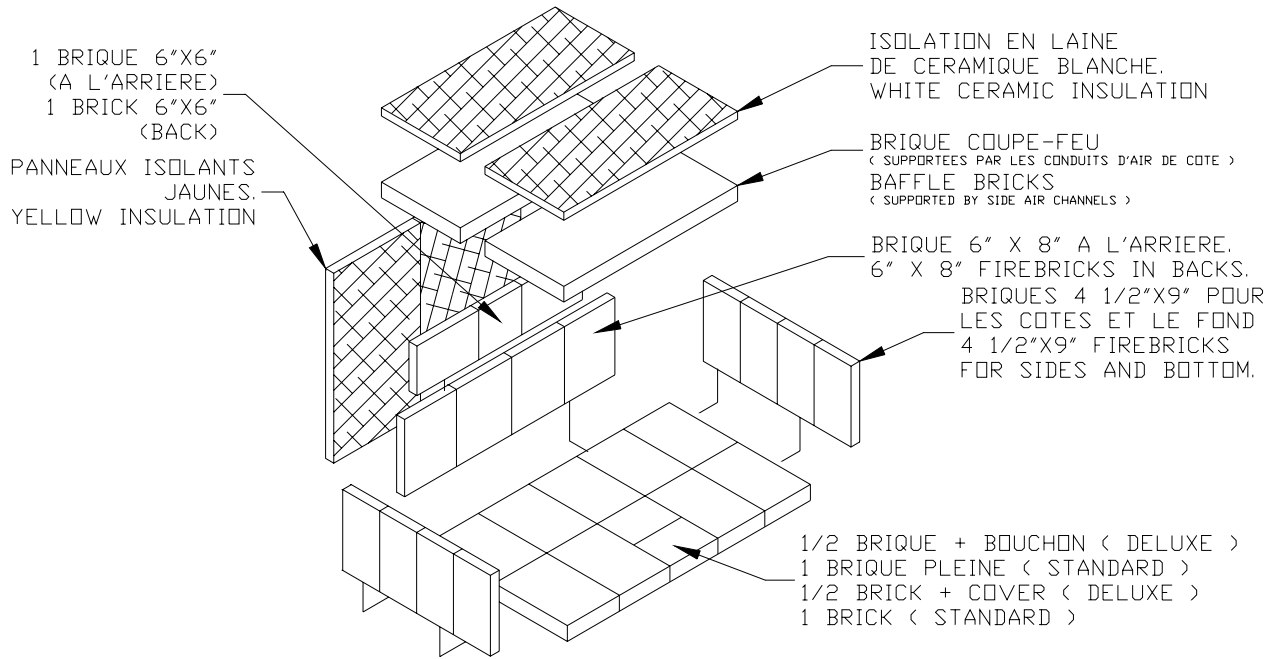

**Figure 4: HT-1600 Refractory Bricks Assembly**
- Refractory bricks are to be installed according to figure 4.
- The upper bricks (2) must lay on the vertical bricks (4) groove